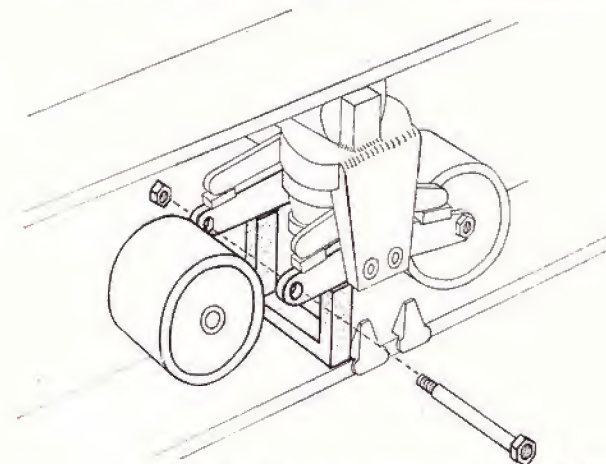

FIGURE 50.—Removal of bogie wheel.
(2) Remove the cotter pin and nut on the back end of the bogie wheel gudgeon (fig. 50).
(3) Remove gudgeon with slide-hammer gudgeon-puller. If it is too tight, use the screw type gudgeon-puller. Care should be taken not to damage the Woodruff key, used to prevent the spindle from turning, or the thread on the end of the spindle.
(4) Install in reverse order; when replacing bogie spindle or gudgeon be sure that it is well oiled.
e. Replacing wheel bearings and oil seals.—(1) Remove spacers with oil seals and drive out bearings and spacer with copper drift.